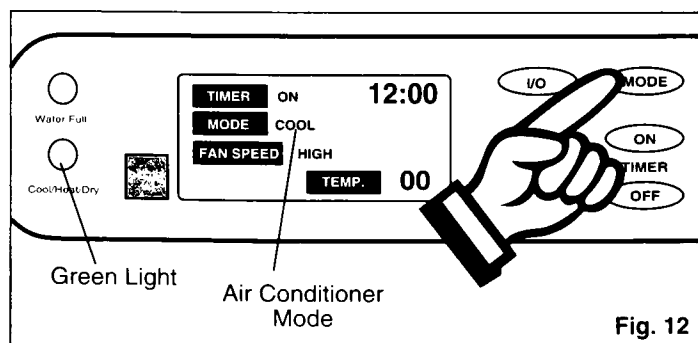

Fig. 12
3) Press the **MODE** key until the word **COOL** is displayed in the **LCD (Liquid Crystal Display)** window. *Fig. 12.* Each depression of the **MODE** key will advance to a different mode setting (**Cool-Heat-Dry-Fan**).